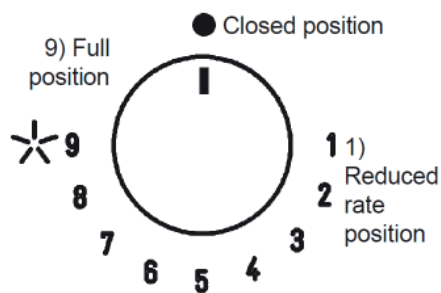

Fig.21
Push and turn the knob corresponding to the required burner in an anticlockwise direction until it reaches the full ✱ on position of full (position 9 fig. 21), then depress the knob, the tap is equipped with a scale of 9 positions, with each click the fl ame is reduced until you reach the position of 1, ie the minimum supply of gas.
The knobs of burners equipped with flame failure device must be turned in an anticlockwise direction until they reach the full on position (Position 9, fig. 21) and come to a stop. Now depress the knob in question and repeat the previously indicated operations.
- When the pan comes to the boil, set the knob to the reduced rate position (Position 1, fig. 21).
- **burners with fl ame failure device may only be ignited when the relative knob has been set to the full on position (Position 9, fig. 21).**